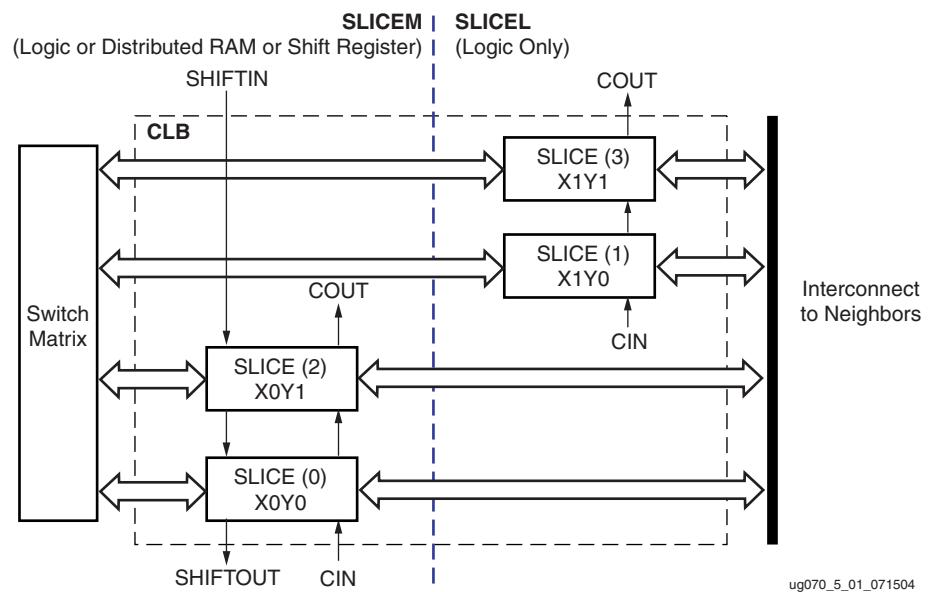

Figure 5-1: Arrangement of Slices within the CLB
The Configurable Logic Blocks (CLBs) are the main logic resource for implementing sequential as well as combinatorial circuits. Each CLB element is connected to a switch matrix to access to the general routing matrix (shown in Figure 5-1). A CLB element contains four interconnected slices. These slices are grouped in pairs. Each pair is organized as a column. SLICEM indicates the pair of slices in the left column, and SLICEL designates the pair of slices in the right column. Each pair in a column has an independent carry chain; however, only the slices in SLICEM have a common shift chain.
The Xilinx® tools designate slices with the following definitions. An “X” followed by a number identifies a column of slices. The number counts up in sequence from the left to the right. A “Y” followed by a number identifies the position of each slice in a pair as well as the CLB row. The “Y” number counts slices starting from the bottom in sequence: 0, 1, 0, 1 (the first CLB row); 2, 3, 2, 3 (the second CLB row); etc. Figure 5-1 shows the CLB located in the bottom-left corner of the die. Slices X0Y0 and X0Y1 constitute the SLICEM column-pair, and slices X1Y0 and X1Y1 constitute the SLICEL column-pair. For each CLB, SLICEM indicates the pair of slices labeled with an even number – SLICE(0) or SLICE(2), and SLICEL designates the pair of slices with an odd number – SLICE(1) or SLICE(3).